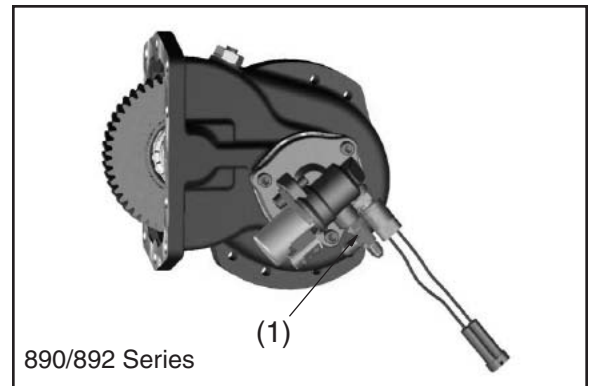

Fig. 11
- Securely attach the high pressure line to the PTO valve fitting (1), torque to 11-12 lbs-ft [15-16 Nm] (**Fig. 11**, **11a**, & **11b**).